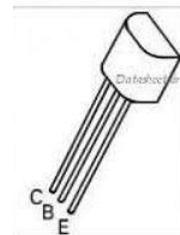

Figure 6-10: Pinout of ZTX649 transistor
8. Insert transistor Q1 (ZTX649) into the breadboard in an area with three open rows (see Figure 6-10 for the pinout).